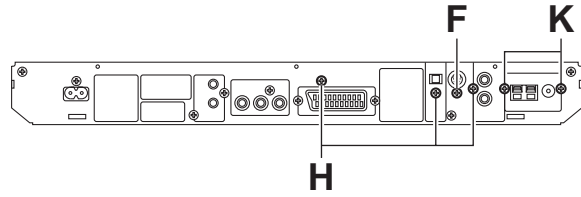

Fig.7
### 3.1.4 Removing the DSP board (See Figs.7 and 8)
- (1) From the back side of the main body, remove the screw **F** and three screws **H** attaching the DSP board to the rear panel. (See Fig.7)
### 3.1.5 Removing the tuner (See Figs.7 and 9)
- (1) From the back side of the main body, remove the two screws **K** attaching the tuner to the rear panel. (See Fig.7)